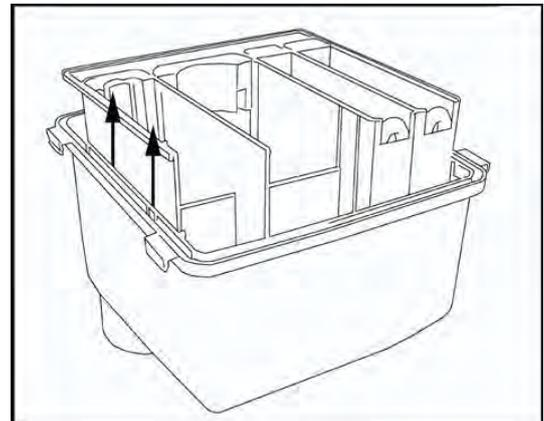

Fig. 10.2
- To clean the lower basin, remove the leak seal and separate the two dispenser bodies by separating the side lips (Fig. 10.2).